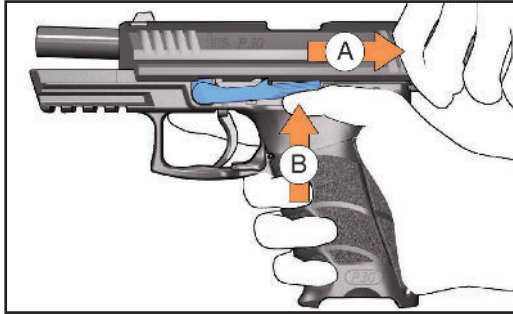

Figure 22 — Pull the slide back and lock it
2. With the magazine removed, pull the slide (A) all the way back and hold it there (see Figure 22).
3. Push the slide release (B) upwards to lock slide back.